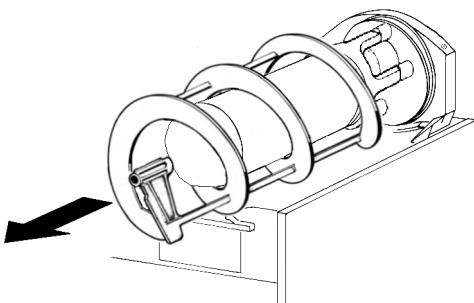
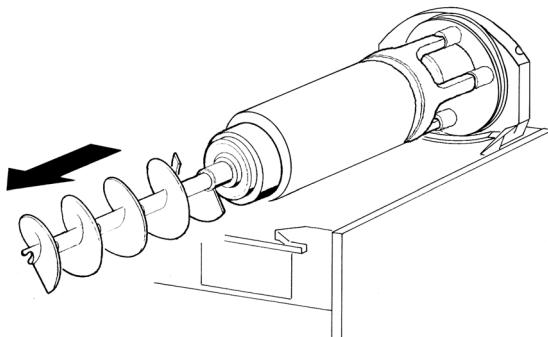

figure 7
figure 8
- 3** Slide the outer spiral out (see figure 7) and then the inside auger (see figure 8).